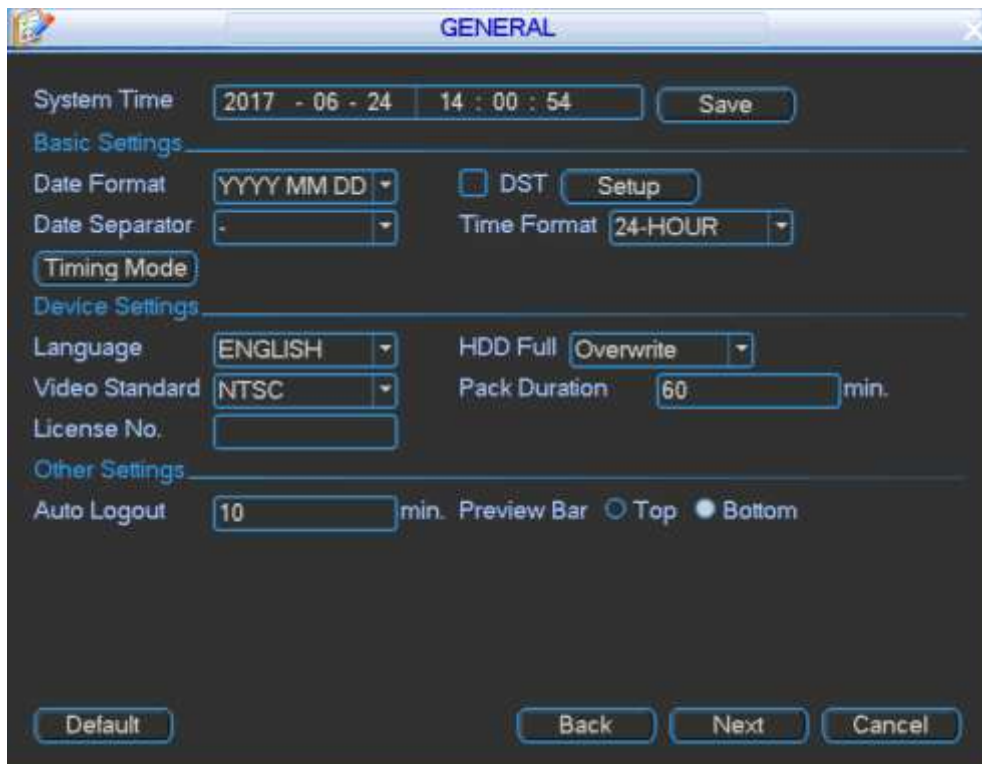

Figure 4-4
Step 3 Input user name and password, click OK to login. System goes to the startup wizard. General interface is shown as in Figure 4-4. Please refer to chapter 4.14.1 General for detailed information.